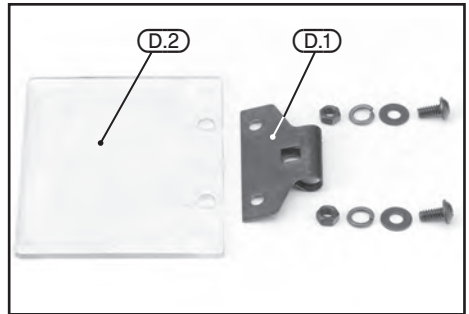

FIG.4
### 8.5 ATTACHING THE EYE SHIELDS – FIG.4
- Attach the eye shields using the fittings from group (D) shown in 7.2 WHAT'S IN THE BOX section on page 12.
- Place the eye shield frame (D.1) over the eye shield (D.2) fasten the two parts together using the long screws, washers and nuts, as shown in Fig.4. **Note:** Do not overtighten as the eye shield may crack.